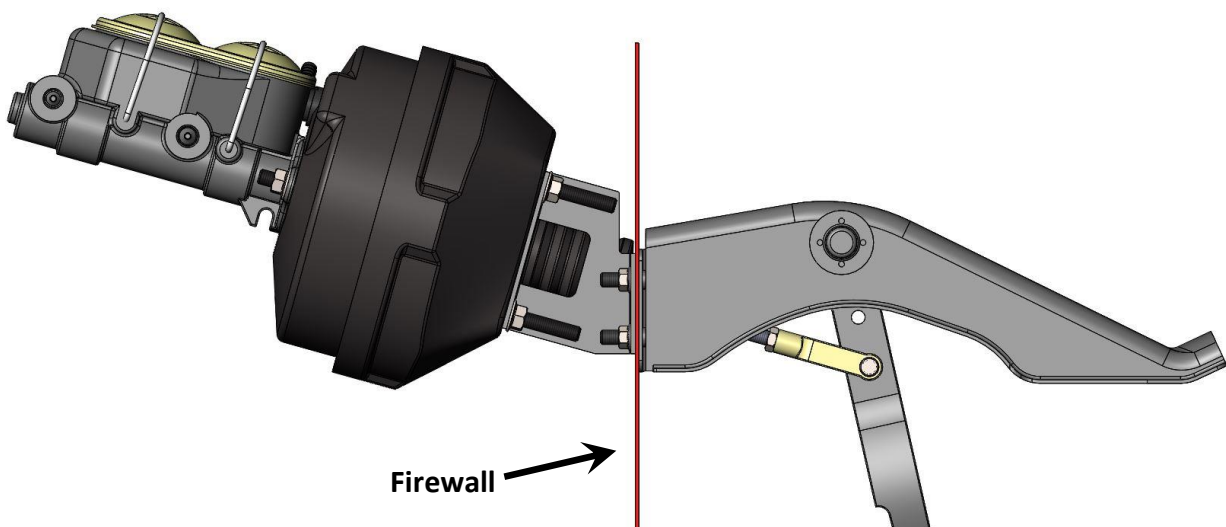
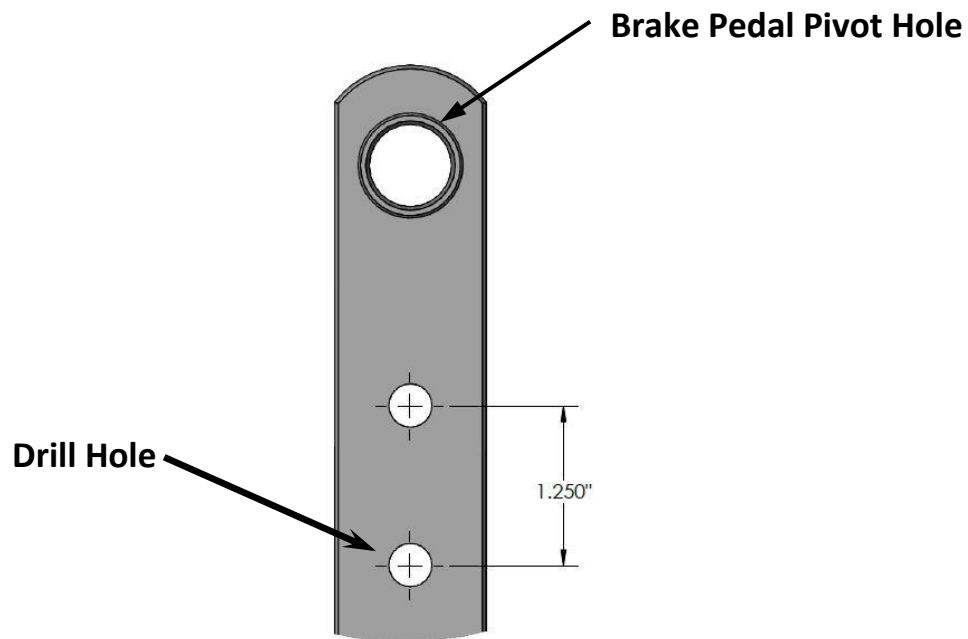

Figure 1 – OE Power Brake Car Installation
Figure 2 – OE Manual Brake Car Pedal Modification
- b. On cars that were originally OE Power Brake cars or on cars with two holes in the brake pedal, the lower hole in the brake pedal will be used for pushrod attachment. On cars that were OE Manual Brake and have only one hole in the brake pedal, it is necessary to drill a hole 1.250" lower than the original hole. Refer to Figure 1 below and Figure 2 on the next page for reference.